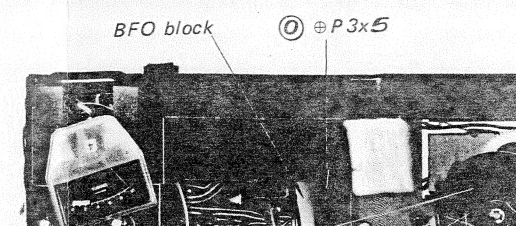

Fig. 2-21. BFO block removal
2. Remove the screw shown in Fig. 2-21.